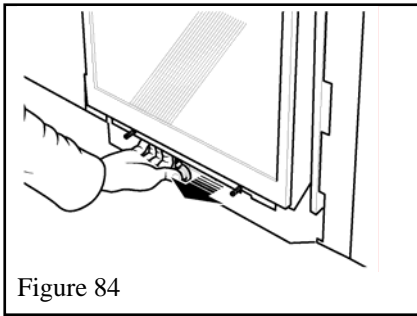

Figure 84
5. Similarly check the bottom of the window by pulling it forward and releasing. See figure 84.